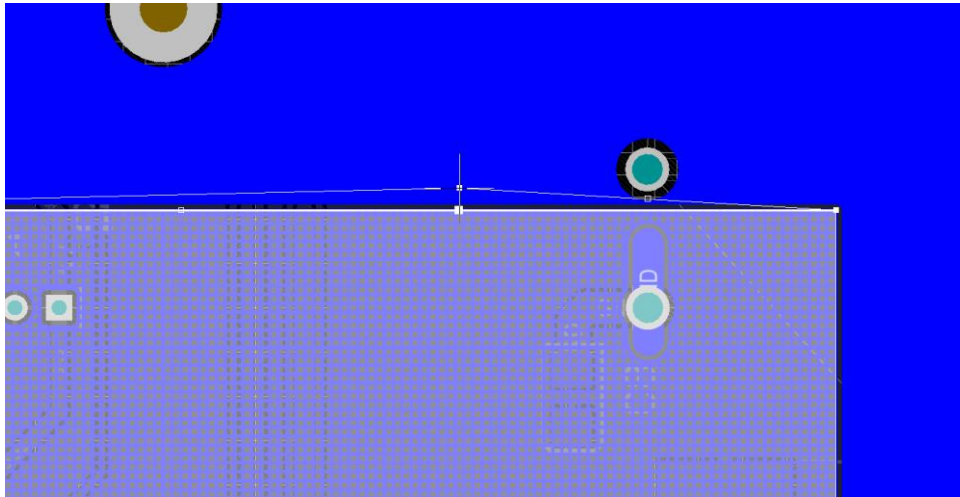

Figure 16. Adding a vertex to a polygon
51. While holding the **Ctrl** key, hold the left-click and move the mouse up. The new vertex will appear on your cursor as shown in Figure 16.